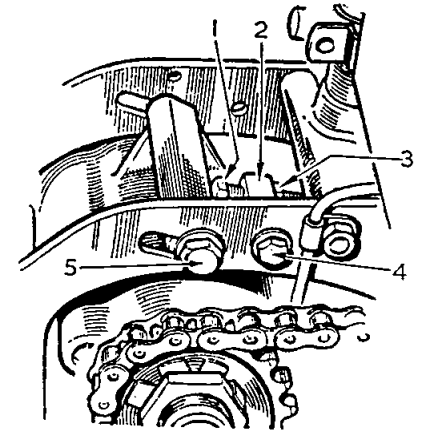

Fig. 15
The maximum free play measured from the centre of the chain run is  $\frac{3}{8}$  in. Check the chain in several positions as it may have stretched unevenly. The method of adjusting the front chain is shown in Fig. 15, with the exception that two adjusters are used on the G80CS model. To adjust the chain slacken the bolt (5) and release the adjusting-bolt locknuts (3).